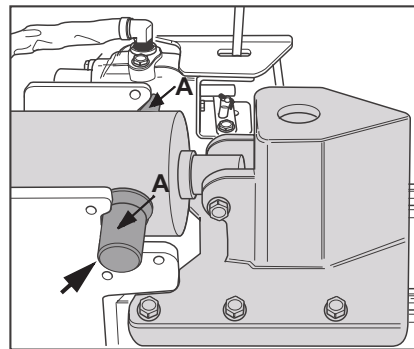

Fig.9a
- Lift the cylinder up to the end of the splitting column and slide into the welded-on mount block (pin A must be situated in the recesses). Fig. 9a